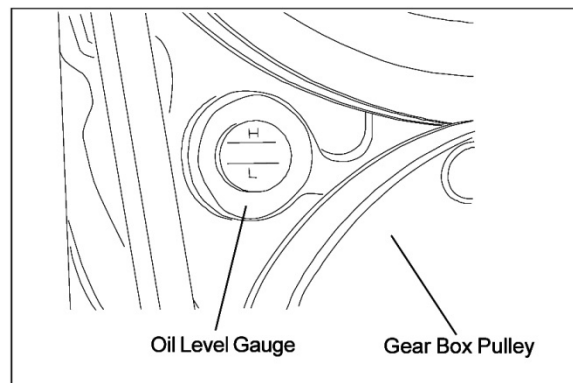

Figure 16: Gearbox Oil Level Gauge
7. Add lubricant until the level is halfway up the sight gauge window (refer to Figure 16). Use Shell Spirax HD 90 gear lubricant.